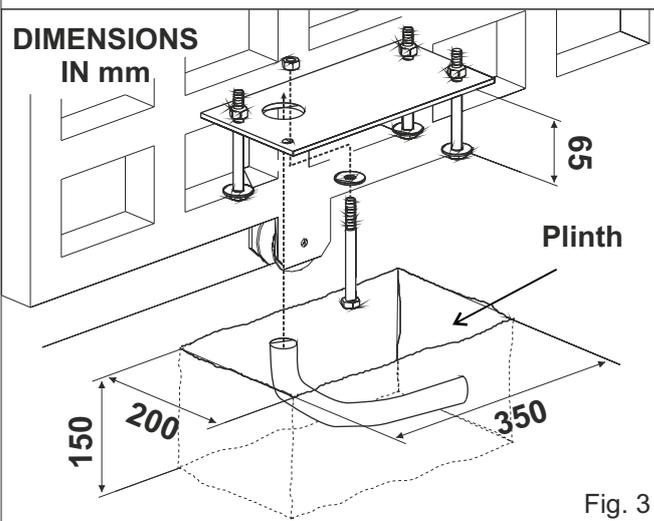

Fig. 3
2.1. Prepare a concrete basement according to the dimensions shown in Fig. 3; The foundation plate and the anchor bolts will be concreted inside the basement